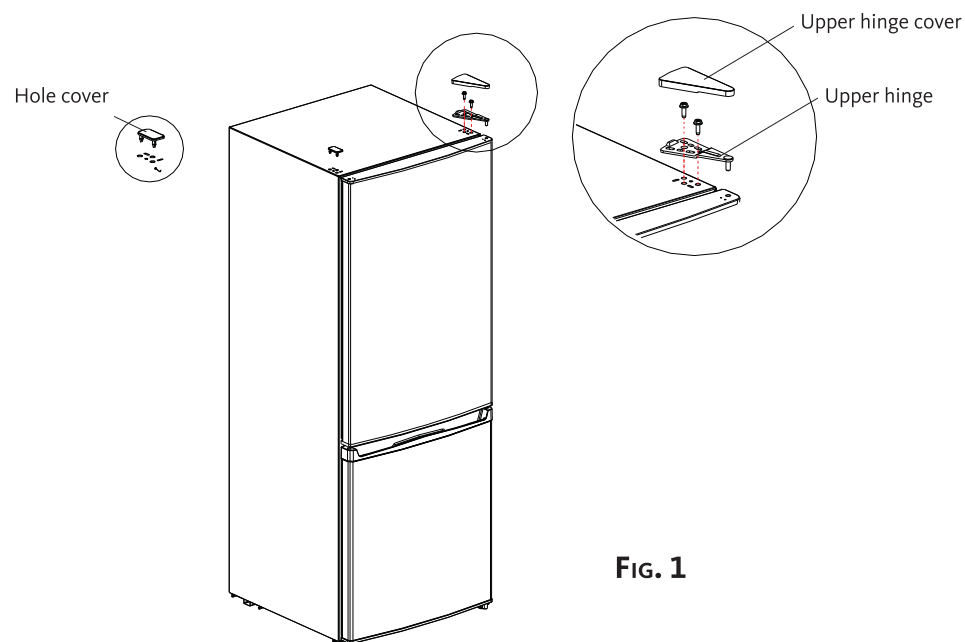

FIG. 1
1. Remove the upper hinge cover and the hole cover. While holding the refrigerator compartment door against the appliance, unscrew the upper hinge (see figure 1).